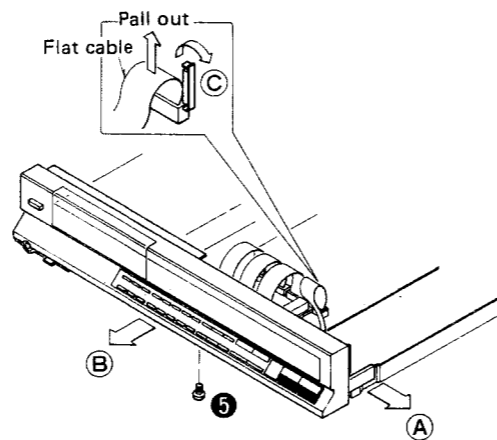

Fig. 2
2. Remove the front panel setscrew. [Fig. 2 : ⑤]
3. Open the lid of 4 connectors (CN401 ~ CN404) of main P.C.B. (arrow ③ in Fig. 2) and then pull out the flat cable.
5. Slightly open the front panel on both sides. (arrow ① in Fig. 2), then remove the front panel from the projection of chassis.
6. Remove the front panel in the direction of the arrow ②, with care not to scratch the disc holder. [Fig. 2]